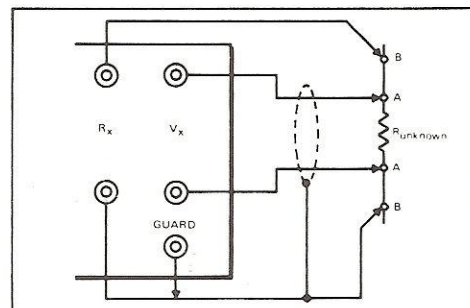

Figure 2-5. Four-Wire Resistance Measurement
2. Connect the Vx terminals to inner connection points, A, of the unknown resistor as shown in Figure 2-5.
3. Connect the current source and sink to the outer connection points, B, of the unknown resistor as shown in Figure 2-5.
4. Connect GUARD to the low side (current sink) of the circuit as shown in Figure 2-5.